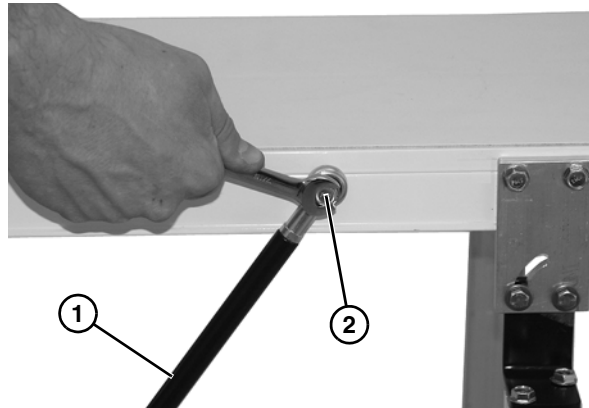

Figure 6
3. Attach the end of brace with threaded hole (**Figure 6, item 1**) to the conveyor with hex head bolt (**Figure 6, item 2**). For 2300 and 5300 series conveyors see “Proper Methods of Attachment to Side Rails” on page 6.